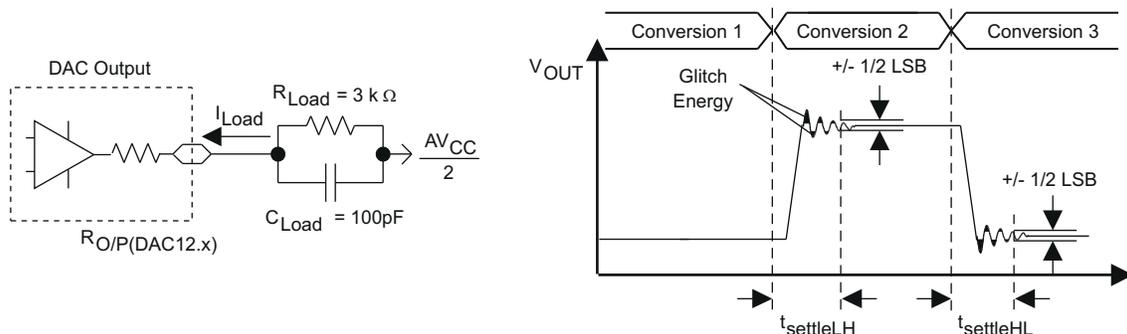
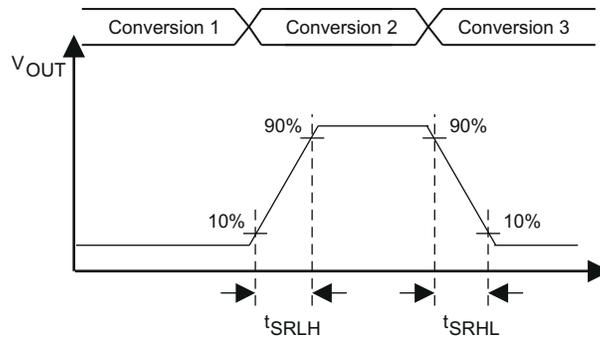

图 8-25. Settling Time and Glitch Energy Testing
图 8-26. Slew Rate Testing
V_{ref} = V_{CC}, DAC12IR = 1, over recommended operating free-air temperature range (unless otherwise noted) (see 图 8-25 and 图 8-26)
- (1) R_{Load} and C_{Load} connected to AV_{SS} (not AV_{CC}/2) in 图 8-25.
- (2) Slew rate applies to output voltage steps ≥ 200 mV.